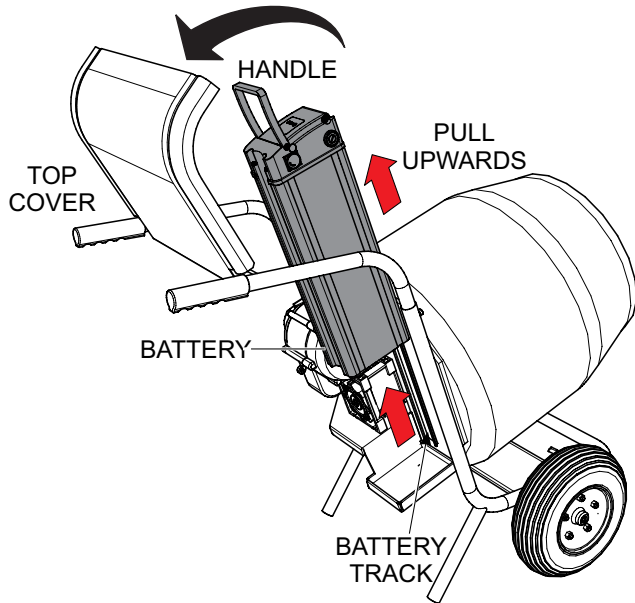

Figure 24. Battery Removal
4. Next, grip the battery handle (Figure 24) and lift the battery from the mixer's battery track.